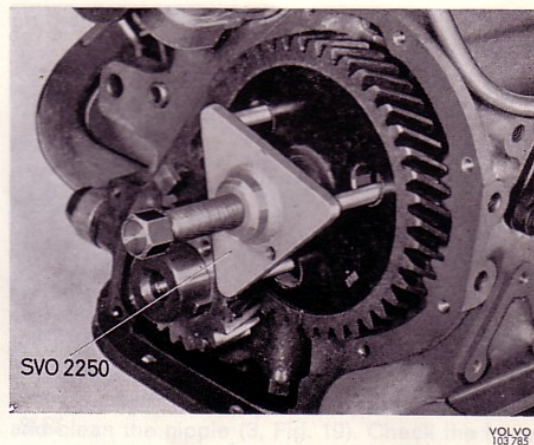

Fig. 45 Removing the camshaft gear
4. Remove the camshaft nut and pull off the gear by using puller SVO 2250, see Fig. 45.